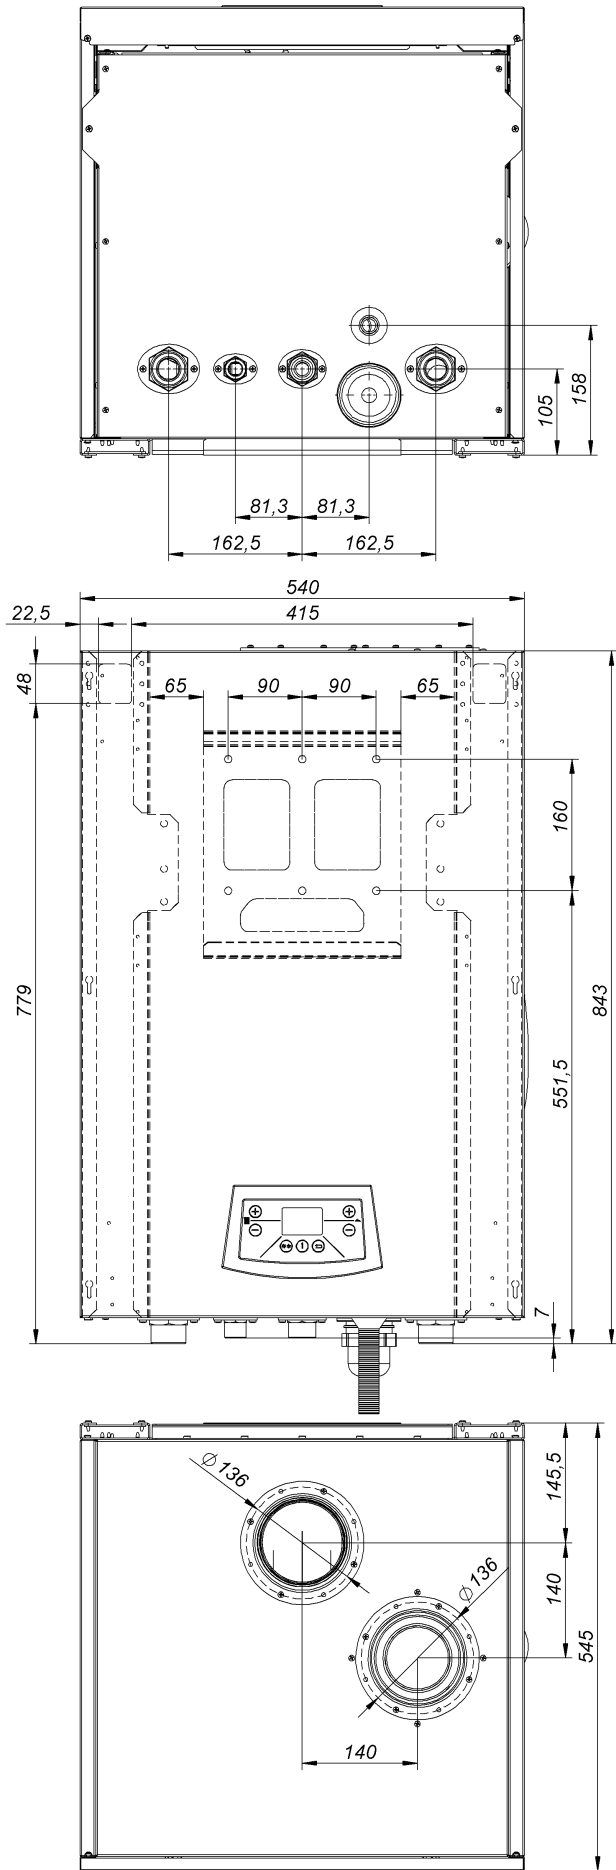

Fig. 3.3.1 – Mounting dimensions
- The most important mounting dimensions are shown on Fig. 3.3.1